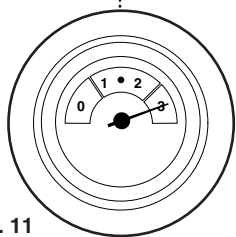

Fig. 11
3. A pressure of 3 or greater indicates a fault. The safety pressure relief valve will operate, at a pressure of 3 (Fig. 11). It is important that your Service Engineer is contacted as soon as possible.